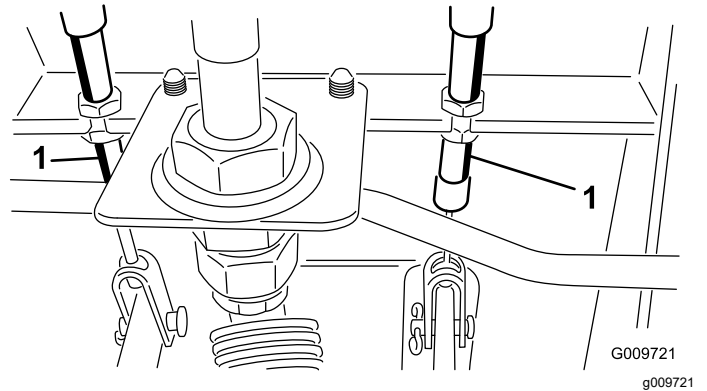

Figure 72
- A. Loosen the front nut on the threaded end of the brake cable (Figure 72).